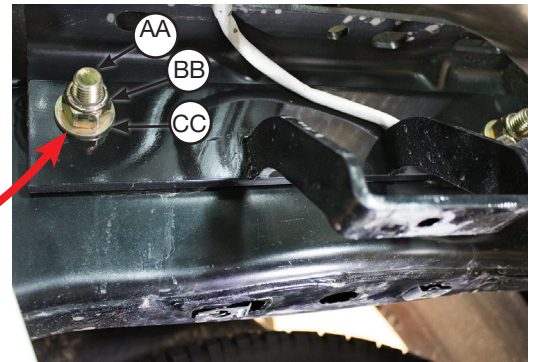

fig. D.27
2. Some models come equipped with a factory fifth-wheel bracket. It will be necessary to remove the hardware from these holes if the vehicle has this bracket. Find the two holes located under the factory fifth-wheel brackets. Attach the upper frame brace using the included 5/8" hex cap screws (AA), nuts (BB) and washers (CC) (Fig. D.27).